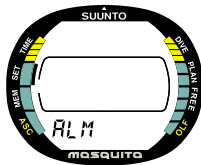

Fig. 4.5. Daily alarm Setting Mode.
1. In the Setting Mode, press **S** two (2) times to select the Daily alarm Setting Mode (Fig. 4.5.).